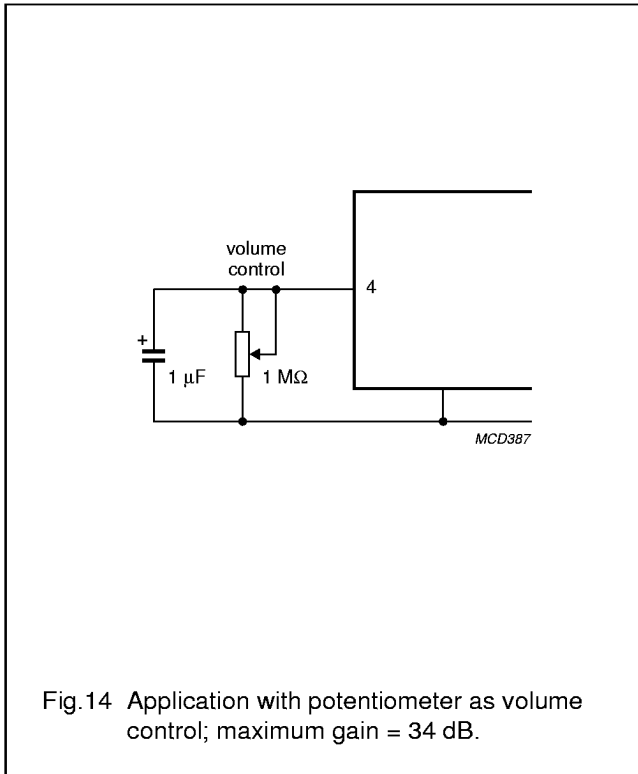

Fig. 14 Application with potentiometer as volume control; maximum gain = 34 dB.
5. The DC volume control can be configured in several ways. Two possible circuits are shown in Figs 14 and 15. The circuits at the volume control pin will influence the switch-on and switch-off behaviour and the maximum voltage gain.